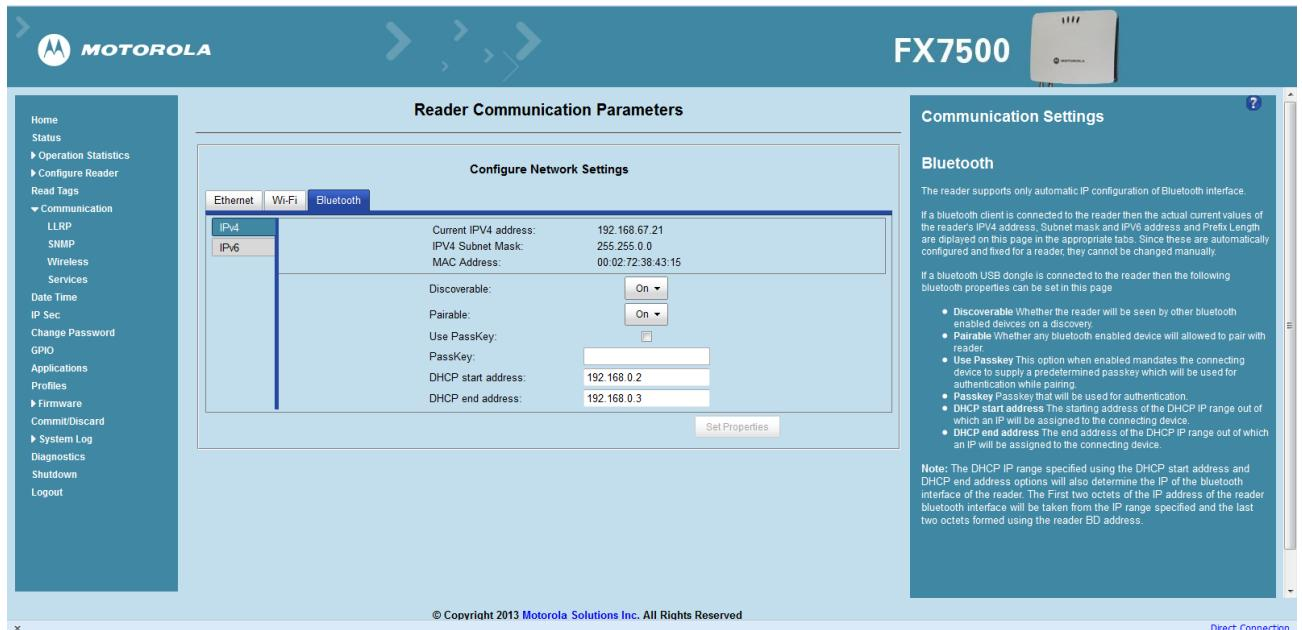

Figure F-12 Communication Bluetooth Tab
- Open the web page or sample application to connect to the Bluetooth IP (192.168.67.21 in Figure F-12) and read tags.